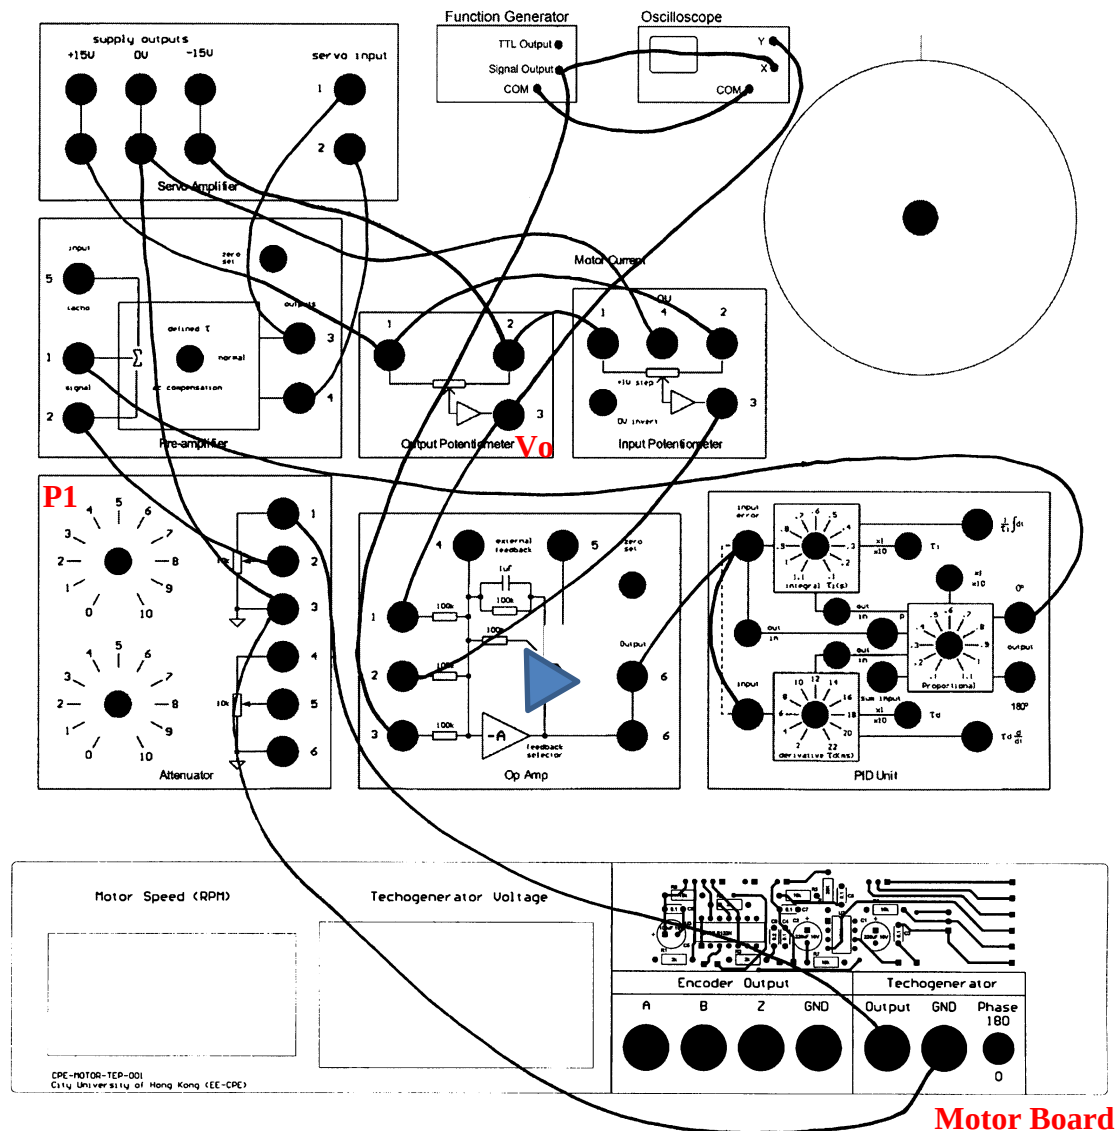

Figure 2
- $V_i(t)$ is the input voltage in Volt, which is the sum of the output of the input potentiometer unit and the signal output of the function generator shown in Figure 2
- Connect the devices as shown in Figure 2.